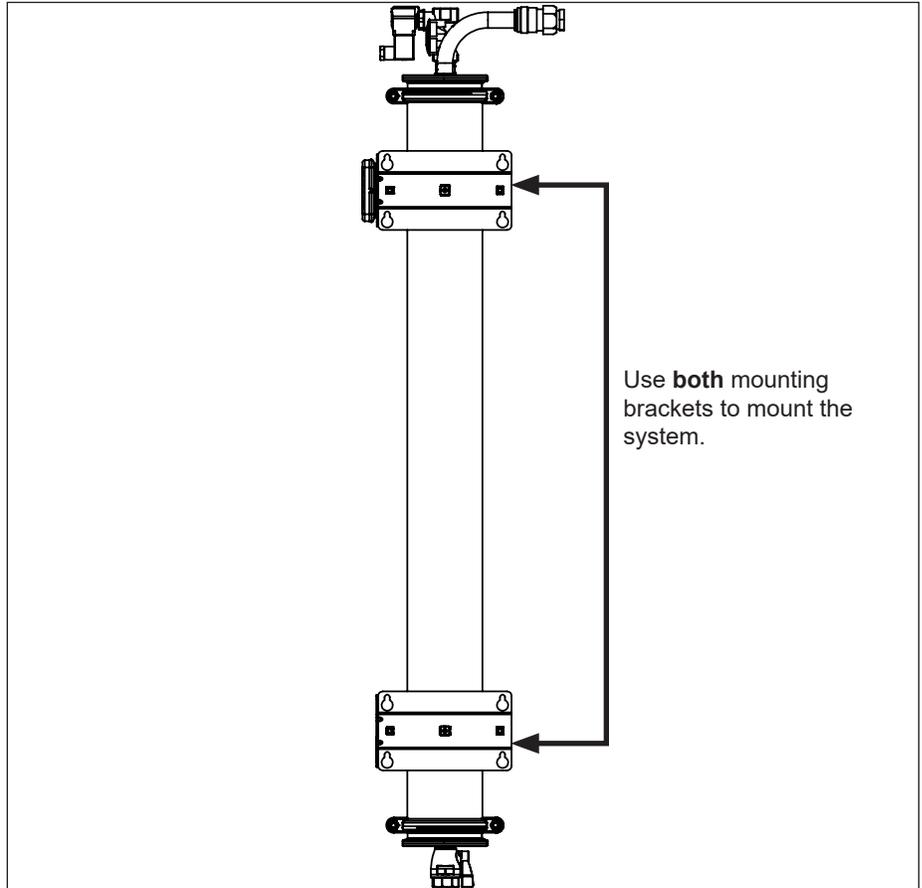

Figure 3. Mounting the System
1. Use a stud finder and level to attach BOTH the top and bottom mounting brackets securely to the wall with the appropriate mounting hardware (Figure 3).